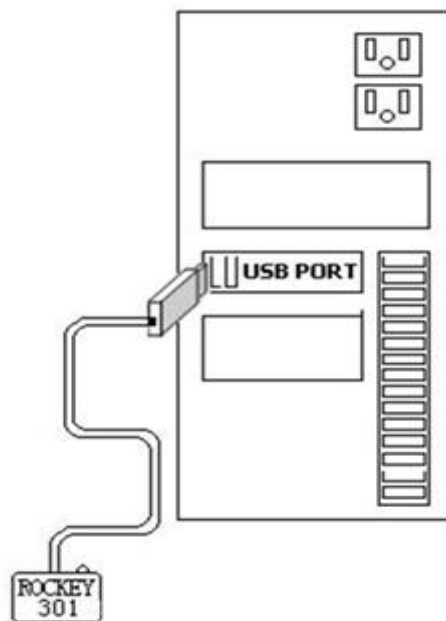

Figure 1 USB Connection
1. Connect ROCKEY301 according to figure 1. The system will find the new hardware and the following interface appears. Select “Install from a list or specific location (Advanced)” and click “Next” button.